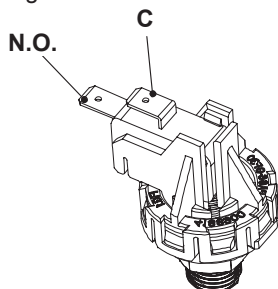

Figure 10.2
- 1 Measure the electrical resistance between the tabs marked C and N.O. (Figure 10.2).